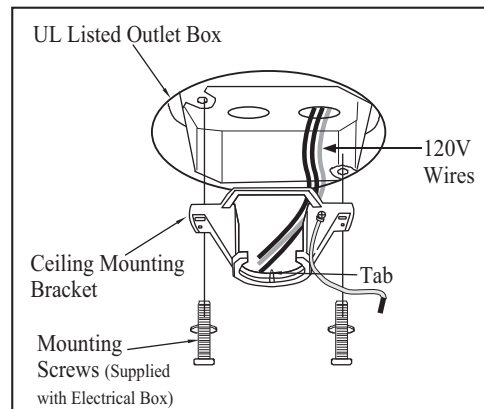

Figure 7
1. Pass the 120-volt supply wires through the center hole in the ceiling mounting bracket as shown in Figure 7.
2. Install the ceiling mounting bracket on the outlet box with the screws and washers provided with your outlet box (Figure 7).